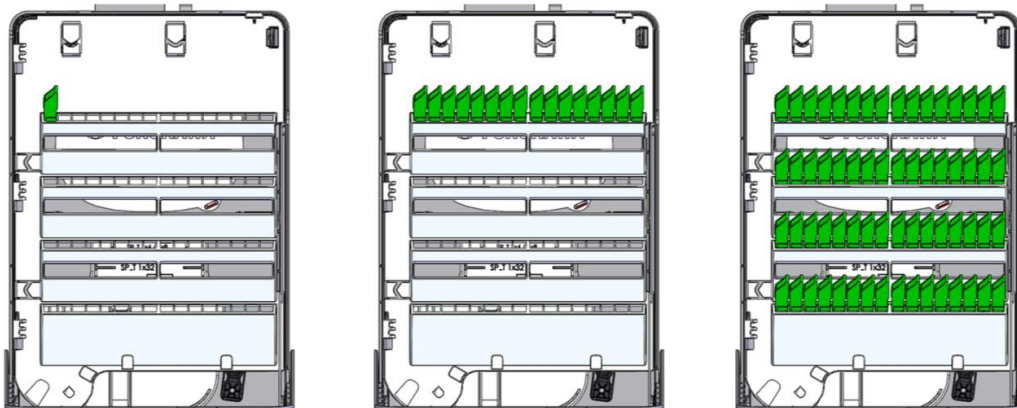

Fig. 12
3.4.1. Install adapters. Fill the adapter plate from left to right and top to bottom (Fig. 12).